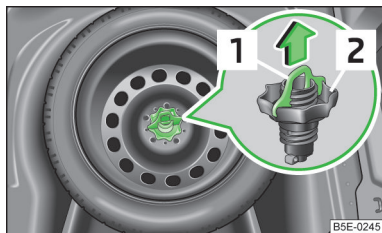

Fig. 192
The spare wheel is located in a well under the floor covering in the boot and is fixed in place with a special bolt » Fig. 192.
- Pull out safety lock 1 » Fig. 192 in the direction of the arrow.
- Screw in bolt 2 » Fig. 192 in a clockwise direction, until the wheel is secure.
- Insert safety lock 1 » Fig. 192 in the opposite direction to which the arrow is pointing.